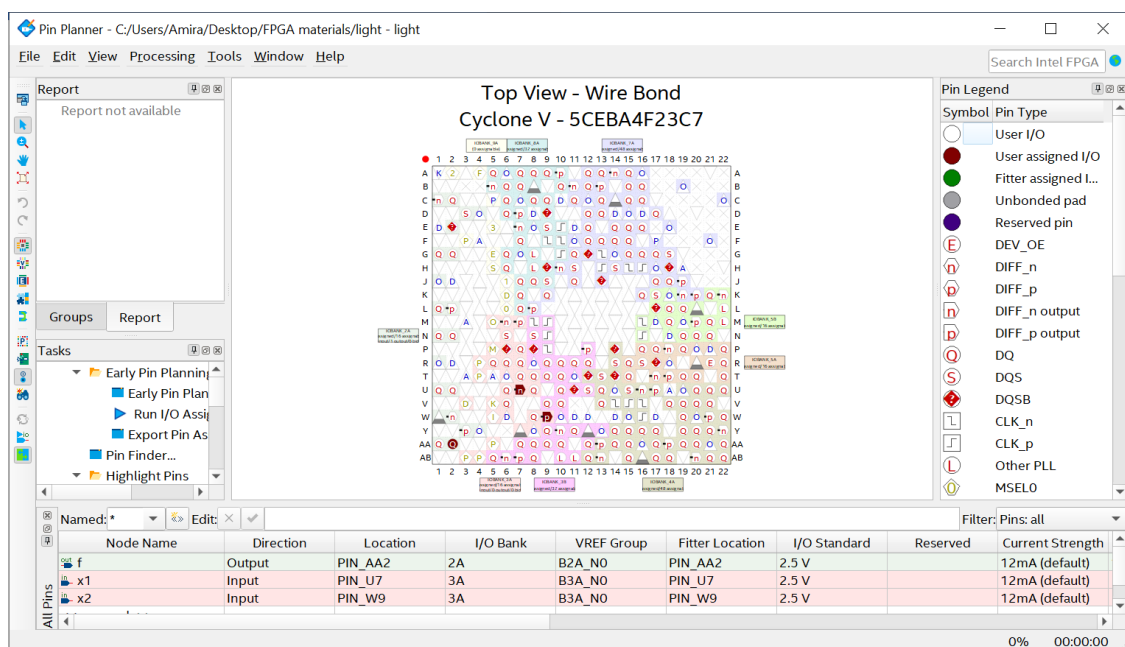

Figure 17. The complete assignment.
2. In Figure 17, Click on x1 as the first pin to be assigned; this will enter x1 in the displayed table. Follow this by double-clicking on the box to the right of this new x1 entry, in the column labeled Location.